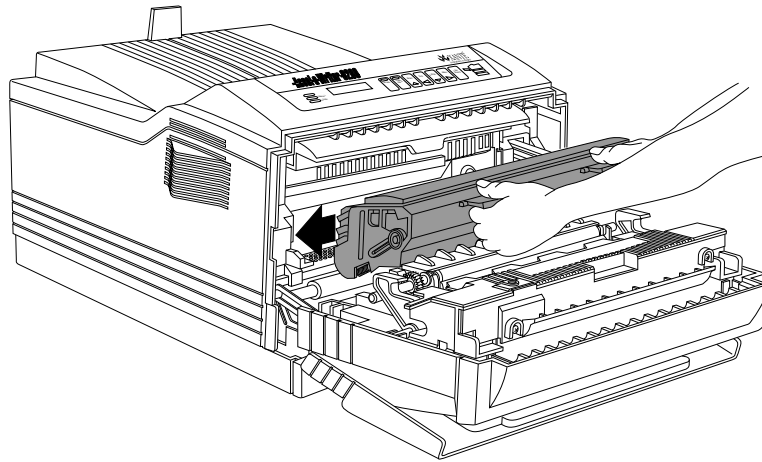

Fig. 2.10 Load the Toner Cartridge
6. Holding the toner cartridge by the two green tabs (fig. 2.10), align it on the runners inside the printer, and slide the cartridge into the printer until it rests securely in place.